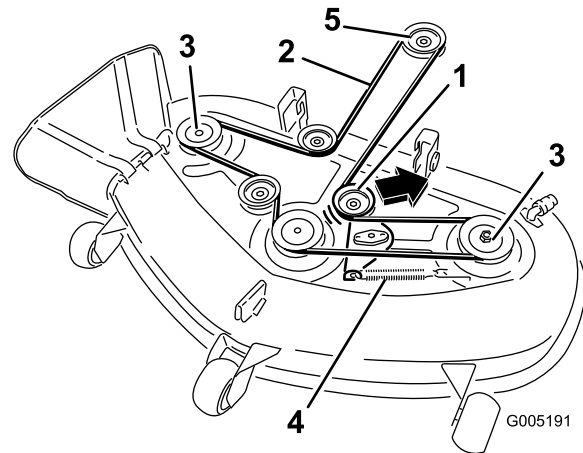

Figure 46
5. Pull the idler pulley in the direction shown in Figure 46 and roll the belt off of the pulleys.
6. Route the new belt around the engine pulley and mower pulleys (Figure 46).
7. Pull the idler pulley in the direction shown in Figure 46 and route the belt onto the idler pulley (Figure 46).